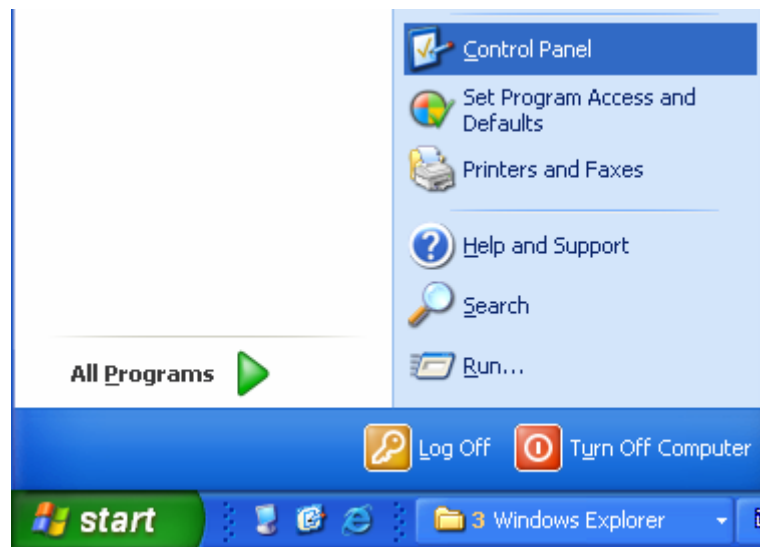

Fig 5-10. Select settings
Step 1: Clicking Start in the task bar, then clicking Setting/Control Panel as shown in Fig 5-10.